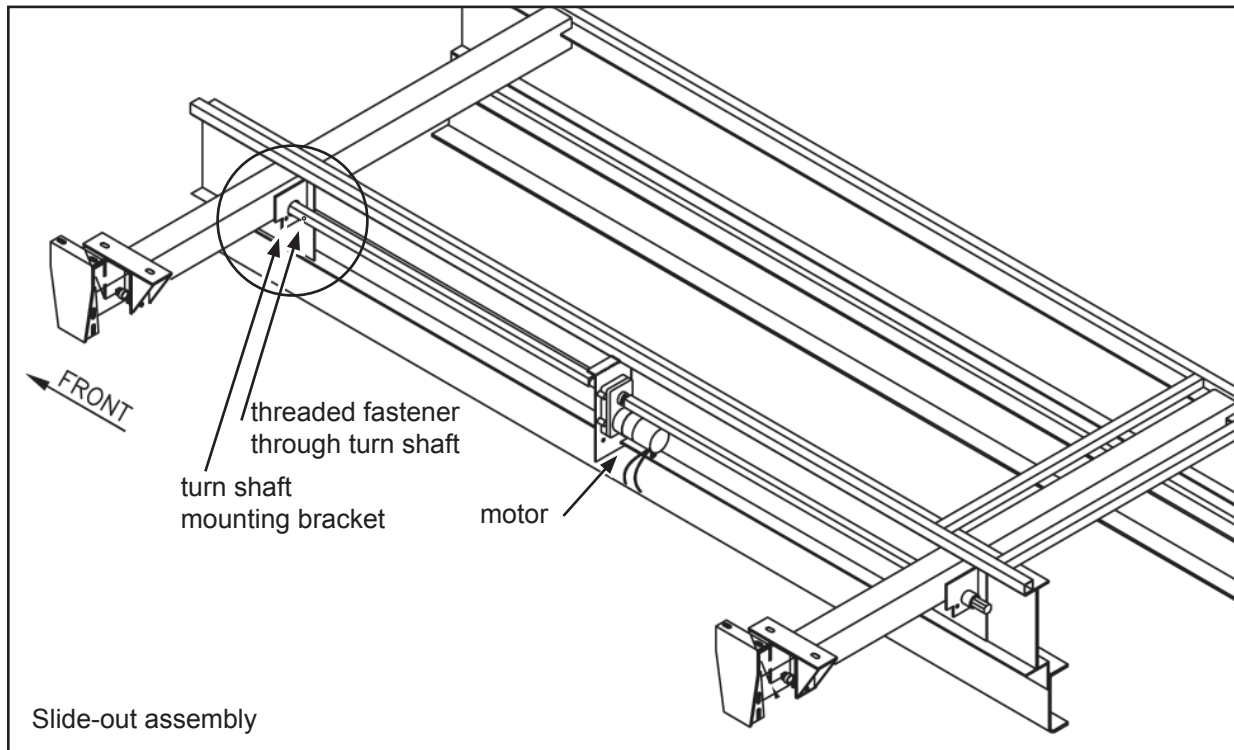

Figure 2
3. Have an assistant bump the control for the slide-out room, extending it just enough that the turn shaft rotates a full 360°. From under the motor home, observe the turn shaft as it rotates, inspecting for any interference between the shaft's threaded fastener and the diesel fuel intake line. Refer to the circled area in the diagram in Figure 2 for the approximate location of the fastener.